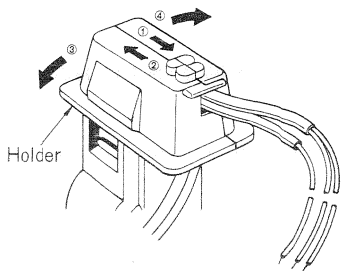

Fig. 14
4. Push the holder in the direction of arrows ① and ② and open the holder in the direction of arrow ③ and ④, as shown in fig. 14.